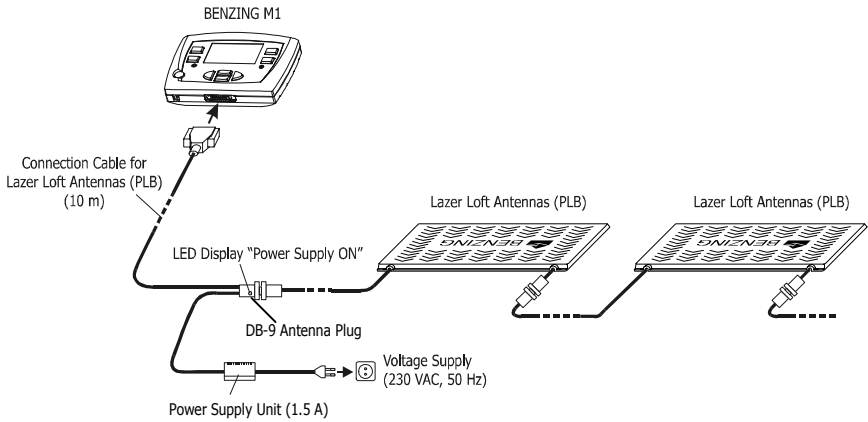
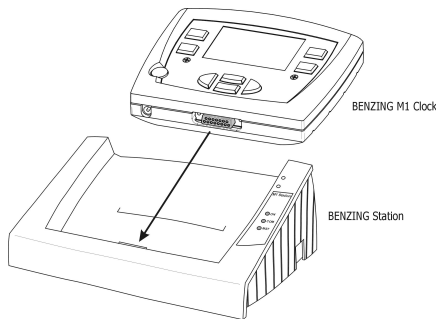

Figure 3.1 – Fancier System BENZING M1
Figure 3.3 - Plugging the BENZING M1 into the BENZING Station
In a loft first the provided PLB connection cable will be connected to one lazer loft antenna (PLB) and then the remaining lazer loft antennae will be connected (see figure 3.1). Next the power supply unit is connected to the corresponding jack at the connection cable. This jack is located on the back of the connection cable's DB-9 antenna plug (see also chapter 2.5 - Connection Cable for Lazer Loft Antennae (PLB)) This will supply the antennae with voltage. At last the BENZING M1 can be connected by plugging-in the connection cable at the BENZING M1.
The build-up of a fancier system with the BENZING M1 and lazer loft antennae (PLB) can be seen in figure 3.1.
- In a fancier's system the power supply unit must always be plugged into the corresponding jack of the connection cable. The socket ⑪ on the BENZING M1 will not be used in this case, as power supply of the lazer loft antennae would be impossible.
- After having plugged in the power supply unit the green LED display 'Power supply' must light up (see figure 3.1). This indicates that the power supply is correctly provided.
- ① Additional Power Supply. But it is recommended to apply power as near to the lazer loft antennae (PLB) as possible (see previous section with figure 3.1).
- ② Connection of the lazer loft antennae via DB 9 socket.
- ③ PMDIN socket for existing components (SAN, INN, CNN, ANN etc.).
- ④ Parallel printer port for connection of conventional printers.
- ⑤ DB 9 socket for connecting a mobile phone or GSM modem.
- ⑥ DB 15 socket for connection with the BENZING M1. The BENZING M1 is plugged into the BENZING Station as shown in figure 3.3.
In this case power supply for the BENZING M1 is provided with the DB-9 antenna plug of the connection cable. See also the figure 3.1.